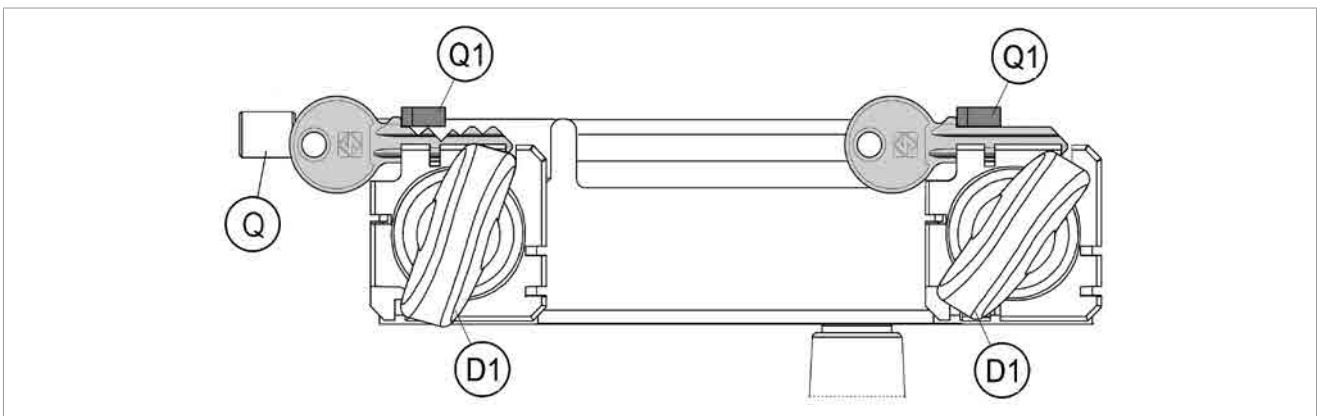

Fig. 22
- b) the key stop is resting against the calibration tab (Q1) (Fig. 22);
- 3) Lower the gauge rod by turning knob (Q).